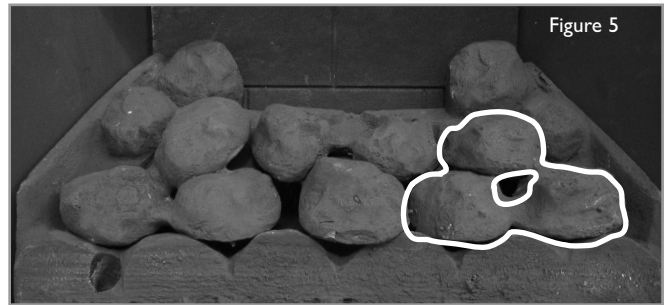

Figure 5
2. Place the moulded coal piece marked on the underside 'A' onto the matrix as shown in figure 5.
4. Place the moulded coal piece marked on the underside 'C' onto the matrix as shown in figure 5.